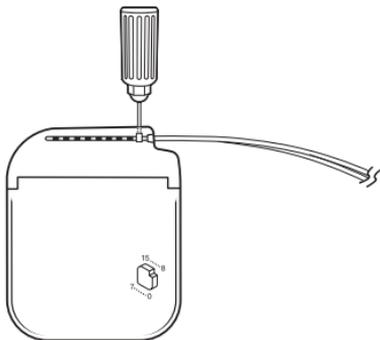

Figure 2. Tightening the setscrews in the self-sealing grommet.
4. For each extension, lead, or plug, fully insert the torque wrench (packaged with the neurostimulation system) into each self-sealing grommet of the connector block and tighten each setscrew (Figure 2).